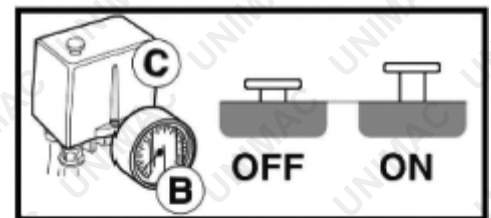
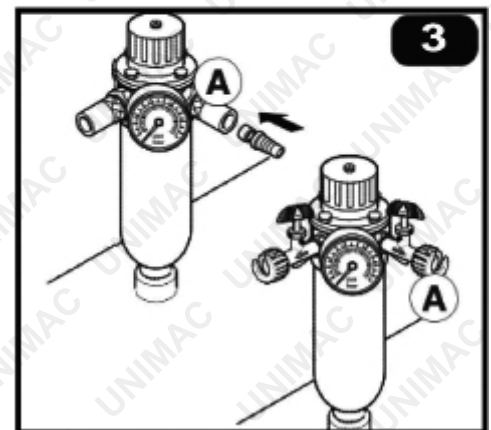

Fig. 2
Fig. 3
1. Make sure the main switch is in position "OFF" (Fig. 2). Plug in the equipment.
2. Start up the compressor by turning the pressure switch Fig. 2 to position "ON" (Fig. 2).
3. When starting the compressor for the first time, leave it running for about 10 minutes with air cocks (A) completely open (Fig. 3).
4. After 10 minutes, close cock (A) and make sure that pressure in the tank is properly delivered. The compressor stops automatically when the max pressure is reached as shown on the gauge (B).
**NOTE: The pressure switch (C) (Fig. 2) stops the motor at Fig. 3 the max pressure setting and makes the compressor start again when pressure goes below the minimum threshold (i.e. about 2 bar less than the max pressure).**
Never stop the compressor by unplugging it; rather turn OFF the switch located on the pressure switch (Fig. 2). The compressed air inside the compressor head will flow out and will make the re-start easier.